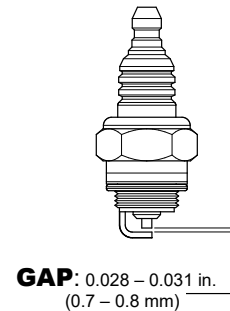

Figure 33. Spark Plug Gap
1. Remove and clean the spark plug (Figure 33), then adjust the spark gap to 0.024 ~0.028 inch (0.6~0.7 mm). This unit has electronic ignition, which requires no adjustments.